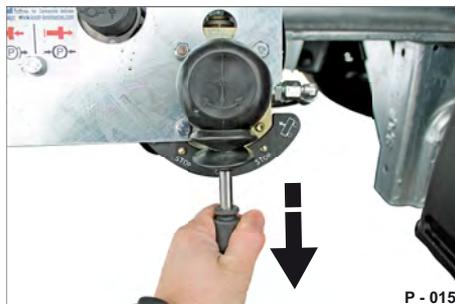

Fig. 39 Unlocking valve lever
The KNORR system works by pulling the valve lever downwards out of drive position (0). The valve lever is released for actuation (see Fig. 39).